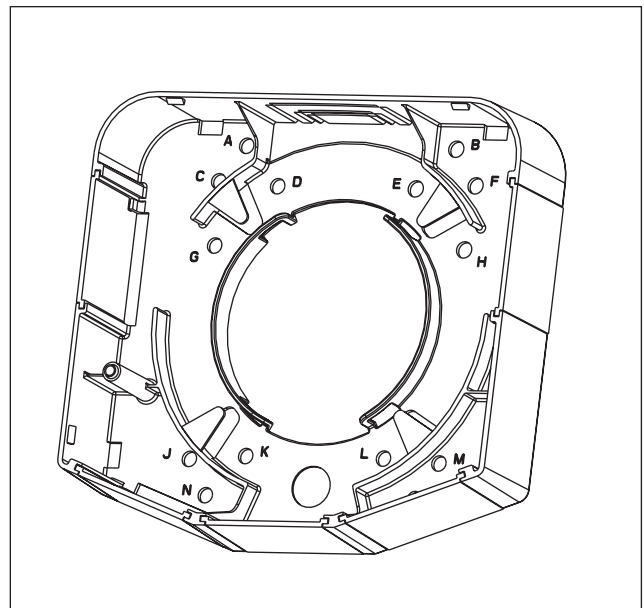

Figure 4
**8.1** The mounting holes in the WMO base are labeled with letters to aid in identification of the proper holes to be used for each mounting application (Figure 4).